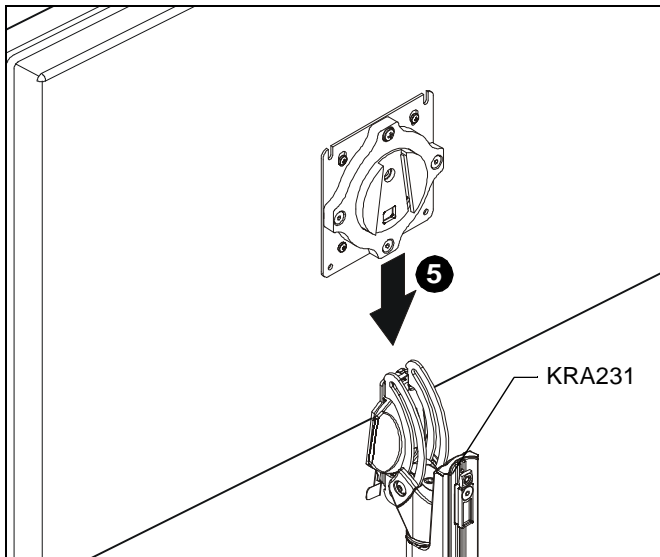

Figure 5
4. Position display with faceplate attached above KRA231. (See Figure 5)
5. Slide faceplate onto KRA231 head until quick release tab clicks into place. (See Figure 5)